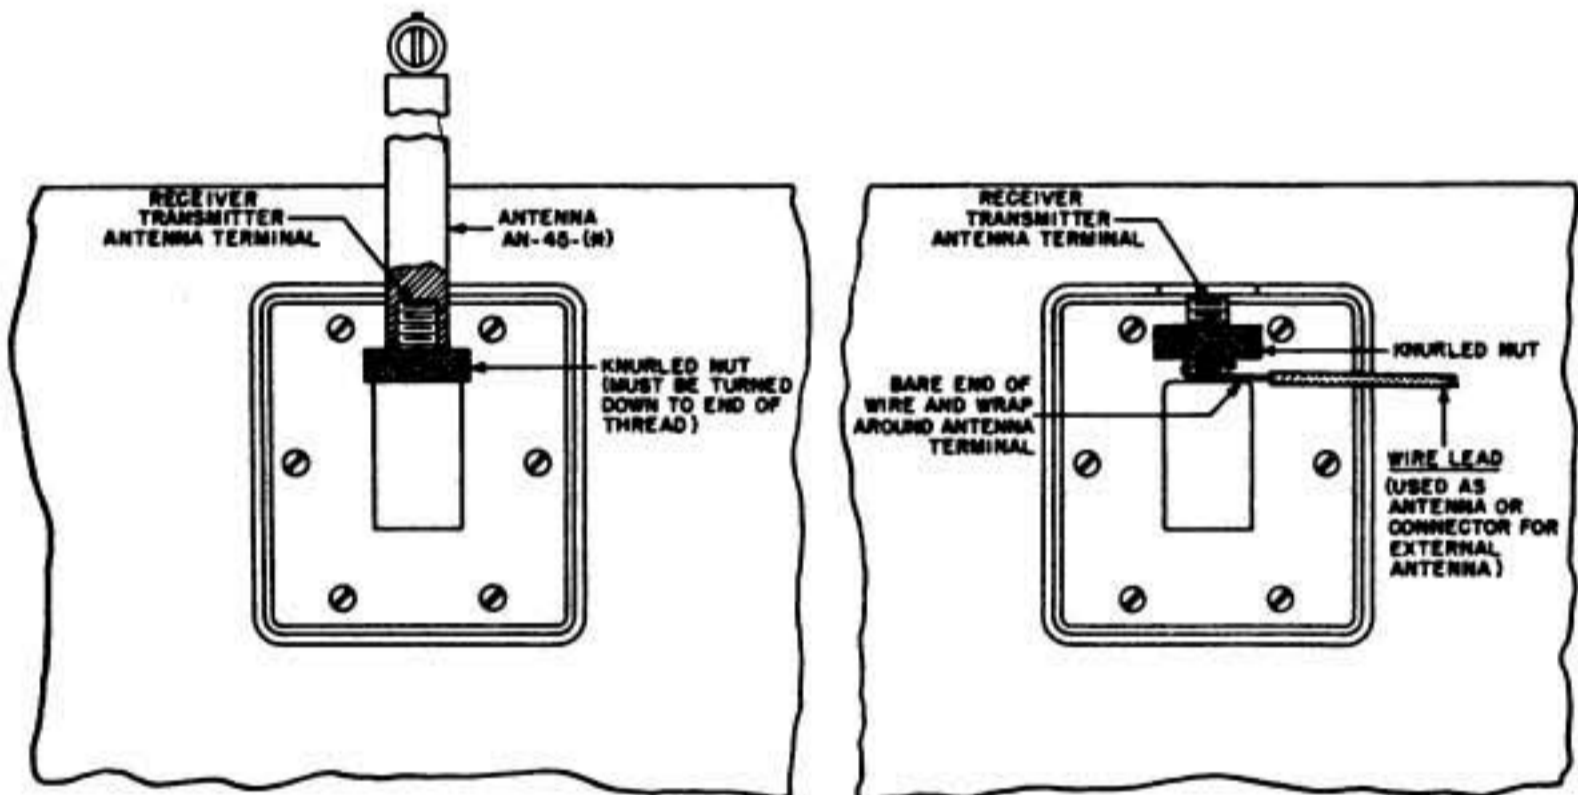

Figure 4. Radio Receiver and Transmitter BC-620-(*), Rear View, Showing Antenna Terminal Connections
(3) Where it is necessary to substitute a wire antenna for the mast, use a 27-foot length of antenna Wire W-29. Loop the uninsulated end of the wire around the antenna terminal and fasten it between the knurled nut and the square portion of the terminal. (See Figure 4.) *Be sure to remove all insulation from that portion of the wire which is to be secured under the nut.*
(4) Unpack the mast bracket and mount it on the vehicle, using suitable bolts or screws. Mount it in the position that is best suited to the limitations of the vehicle and to the mounting space requirements for the radio set. As indicated in Paragraph 6c(2), it is better to place it close enough to Mounting FT-250-(*) so that the length of the antenna connecting lead can be a 2-foot (\pm 1 in.) length of wire.
(5) Assemble Mast Base MP-48 to the mast base bracket. Connect the antenna terminal of the receiver and transmitter to the top terminal of the mast base. Use Wire W-126 (or W-128) 24 inches (\pm 1 in.) long, routed through the guides of the mast base. (See Figures 4, 8, and 10.) Be sure to remove the inner connector of MP-48 when using a wire lead-in, otherwise the range of the set will be reduced about 50 percent. In those installations where you need a lead-in longer than 24 inches (\pm 1 in.) *you must use Coaxial Cable CD-636 and Terminal Box TM-206.* Place mast base Cover BG-108 over the complete assembly.
(1) Place battery Case CS-79-(*) on the ground or other support. Open the case and remove Handset TS-13-(*), and Antenna AN-45-(*). See that the battery plugs are properly inserted into the batteries. Close the case cover and latch it. Place the radio receiver and transmitter on Case CS-79-(*) and fasten the two units together with catch clips. Join the cable connectors of the two units, placing the key in the keyway, and screw the fittings together securely. Extend Antenna AN-45-(*) to its full length and screw it to the antenna terminal on the rear of the radio receiver and transmitter case, first tightening down the knurled nut securely. (See Figure 4.) Insert the Handset TS-13-(*) plugs into the proper jacks on the radio receiver and transmitter panel. The set is now ready to operate.
(2) Turn the switch and volume control knob full ON (to the right.) Turn the meter switch to OPER. Turn the channel selector knob to the channel on which communication is to be made. Listen for the station with which communication is desired. Regulate volume to the desired level. To transmit, press the switch on the handset and speak clearly into the microphone. Release the switch when transmission is completed. To turn the radio set off, turn volume control knob to OFF, (to the left).